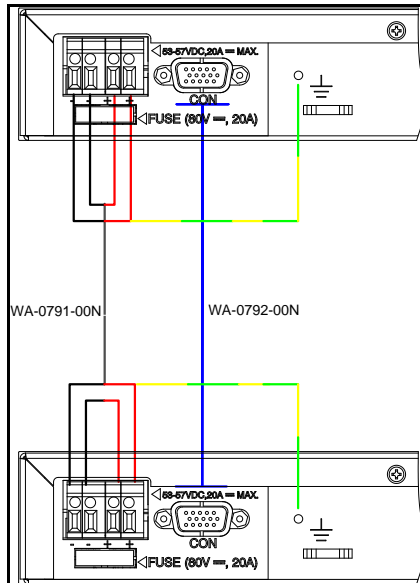

Figure 8-2: PD-90xxG Rear Panel connections
3. Connect DC cable; two red wires (+), two black wires(-), and one yellow/green wire, as shown in Figure 8-2.